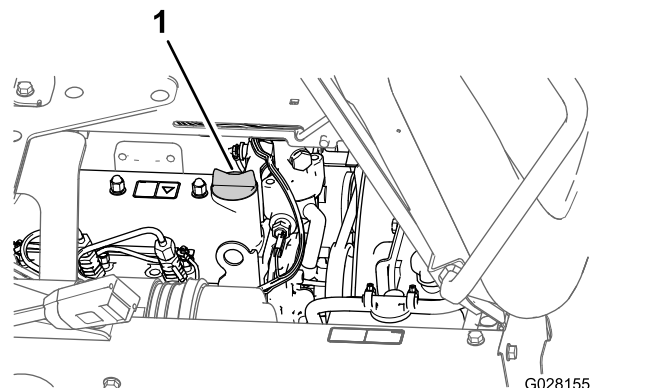

Figure 73
5. Remove the oil-filler cap from the filler neck of the valve cover of the engine and slowly pour approximately 80% of the specified amount of oil into the filler neck (Figure 73).
8. Install the oil-filler cap into the filler neck (Figure 73).